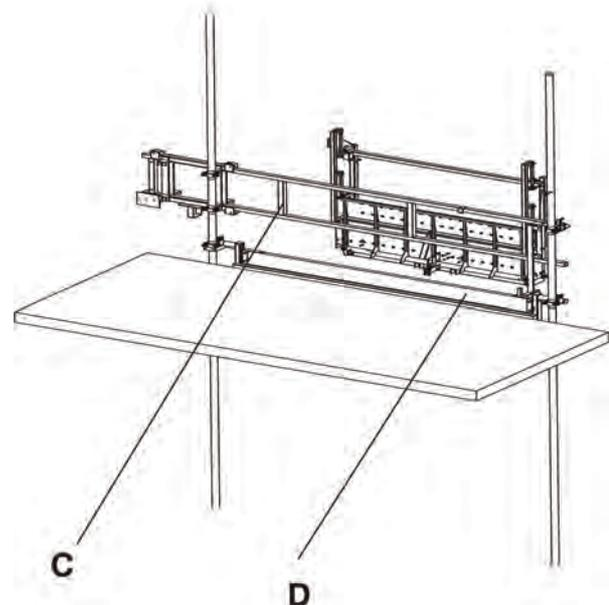

Fig. 6-11 Platform barrier
- 1 Install the landing barrier (fig. 6-11, A or C) and kick plate (fig. 6-11, B or fig. 6-11, D) at the correct position for the loading and unloading place at the façade or scaffold